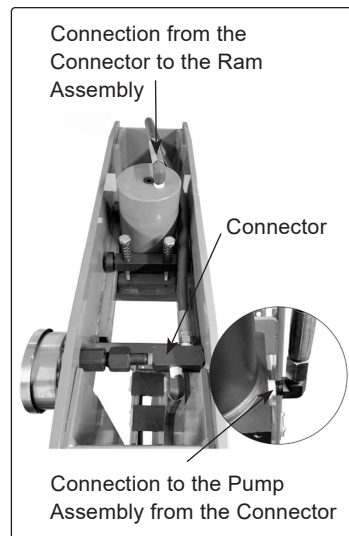

fig.2
5.7. CONNECT OIL HOSE (1) fig.2
5.9. CONNECT OIL HOSE (2) fig.2